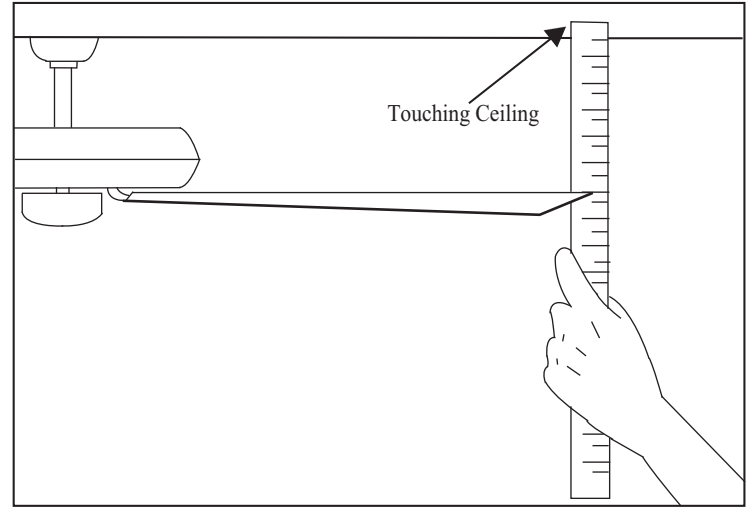

Figure 16
2. Most fan wobble problems are caused when blade levels are unequal. Check this level by selecting a point on the ceiling above the tip of one of the blades. Measure from a point on the center of each blade to the point on the ceiling. Measure this distance as shown in Figure 16. Rotate the fan until the next blade is positioned for measurement. Repeat for each blade. Measurements deviation should be within  $1/8"$ . Run the fan for 10 Minutes.